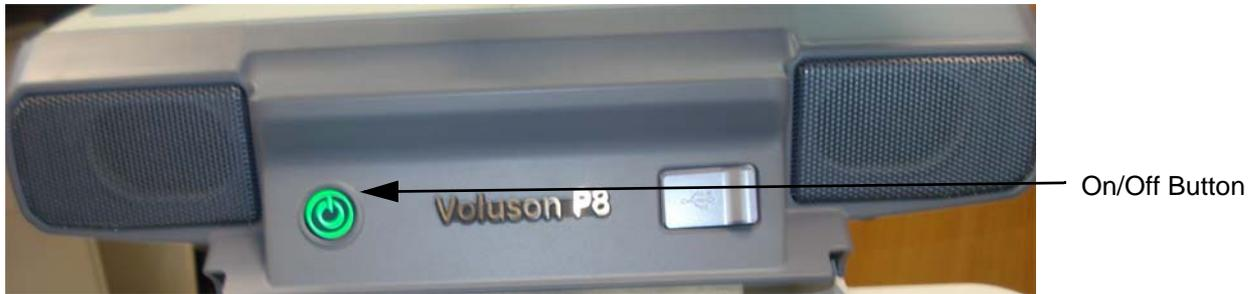

Figure 4-2 On/Off Button on Control Panel
5.) Hold down the **On/Off** button (see: Figure 4-2) on the control panel for ~3 seconds.
- 2.) Press the **ON/OFF** button (see: Figure 4-2) on the control panel. Following dialog appears.